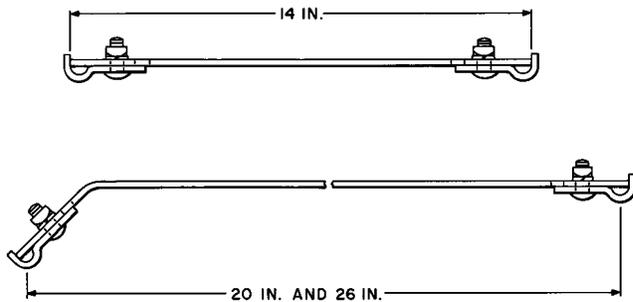

Fig. 7—B Strand Tie Straps
4.09 At the 1/4- and 2/3-span points install appropriate B Strand Tie Straps shown in Fig. 7. The length of strap depends on the 60 F sag of the cable suspension strand with the cable in place as indicated in Table C.